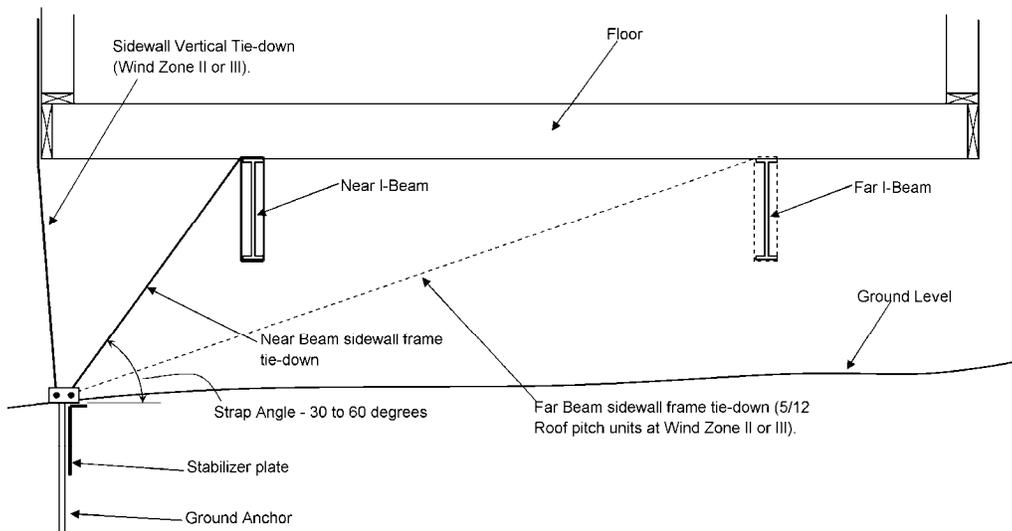

Figure 71. Lateral tie-down configurations
When straps are connected only to the near I-beam, (**Figure 71**) the angle the strap makes with the ground should be between 30 degrees and 60 degrees. Angles greater than 60 degrees may require closer anchor spacing.
- Near Beam Method.** Connect an anchor strap from the anchor head to the beam closest to the anchor. (**Figure 71**). In addition for Wind Zones II and III, connect a vertical sidewall strap from the sidewall of the home to the anchor head using a double-headed anchor.
- Far Beam Method.** Connect an anchor strap from the anchor head to the outside beam. (**Figure 71**). In addition for Wind Zones II and III, connect a vertical sidewall strap from the sidewall of the home to the anchor head using a double-headed anchor. The far beam method is only required for